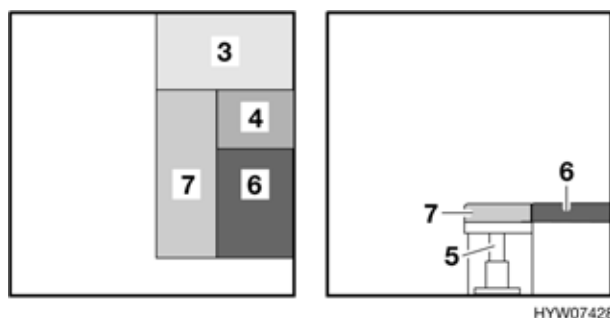

Fig. 100 After conversion
- Return the seat cushion of the divan (Fig. 100,6) to its original location.